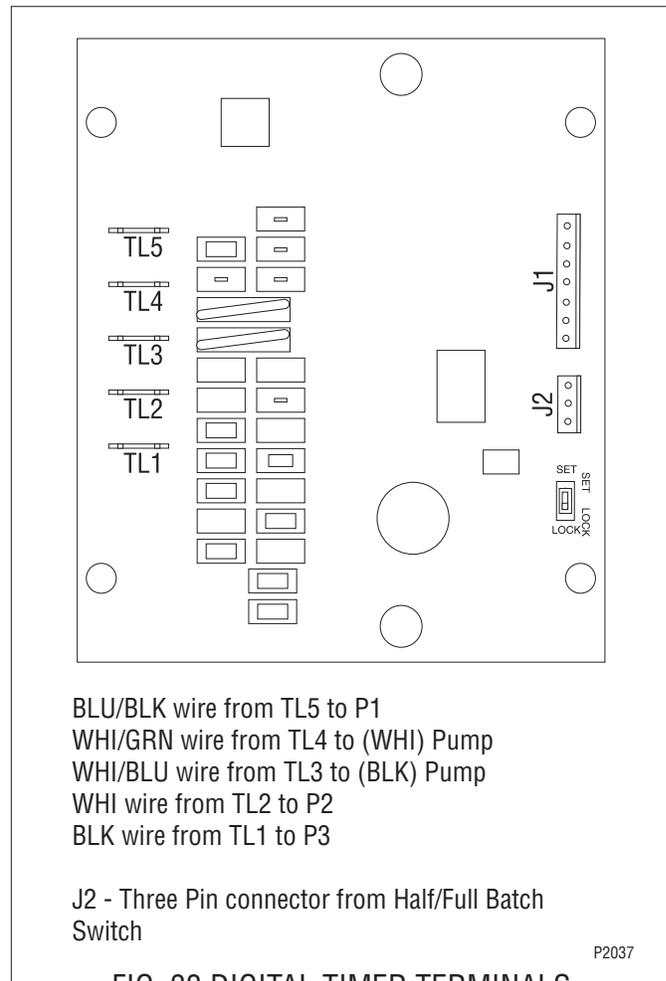

FIG. 33 DIGITAL TIMER TERMINALS
5. Refer to Fig. 33 to reconnect the wires.
4. Attach all wires to the replacement timer board prior to installation to the component mounting bracket. Refer to FIG. 33 when reconnecting the wires.